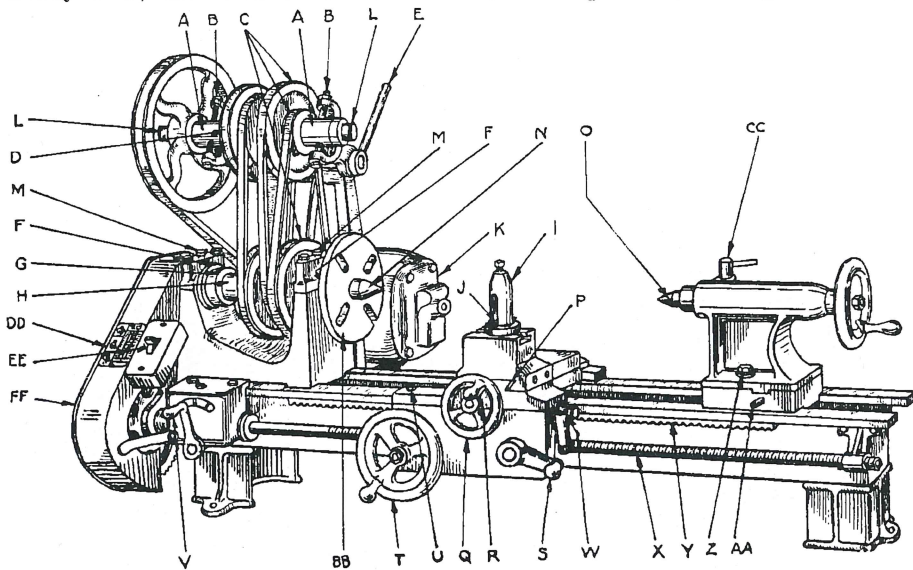

Fig. 1. PARTS OF A MODERN LATHE
**Parts of a Modern Lathe.** Fig. 1 shows the parts of a modern lathe. Study this; use it as a reference while reading the following directions.
**CUTTING SPEEDS.** The speed a cut is taken varies according to the kind of metal being cut and the kind of cut—whether roughing or finishing. Brass may be cut faster than steel and a light cut faster than a heavy one. To change speeds; pull release lever “E”, Fig. 1, toward front, arrange belts on cone pulleys to desired speed. Sliding collar “D” to right engages compound drive mechanism, to left, direct drive. Slowest speeds are in compound drive.